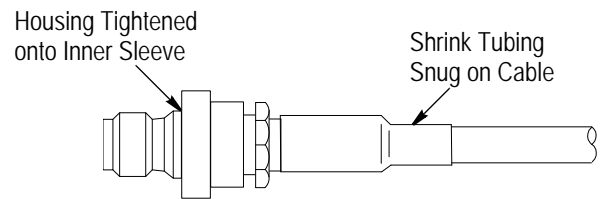

Figure 5
3.4. Secure Housing to Inner Sleeve (Figure 5)
3. Position the shrink tubing over the ferrule as shown in Figure 5.